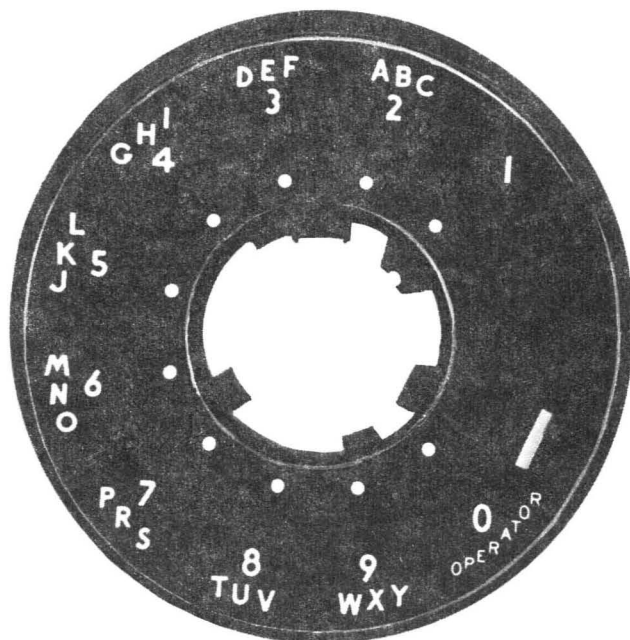
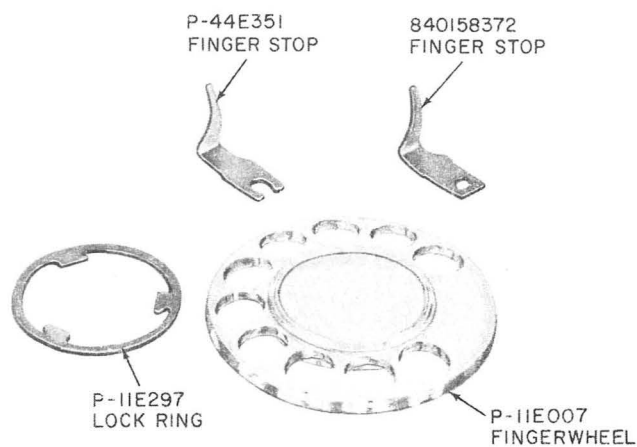
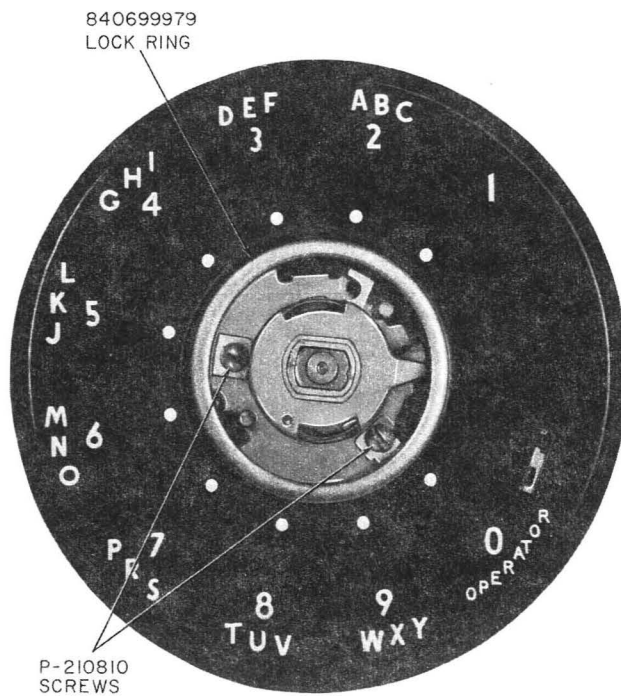
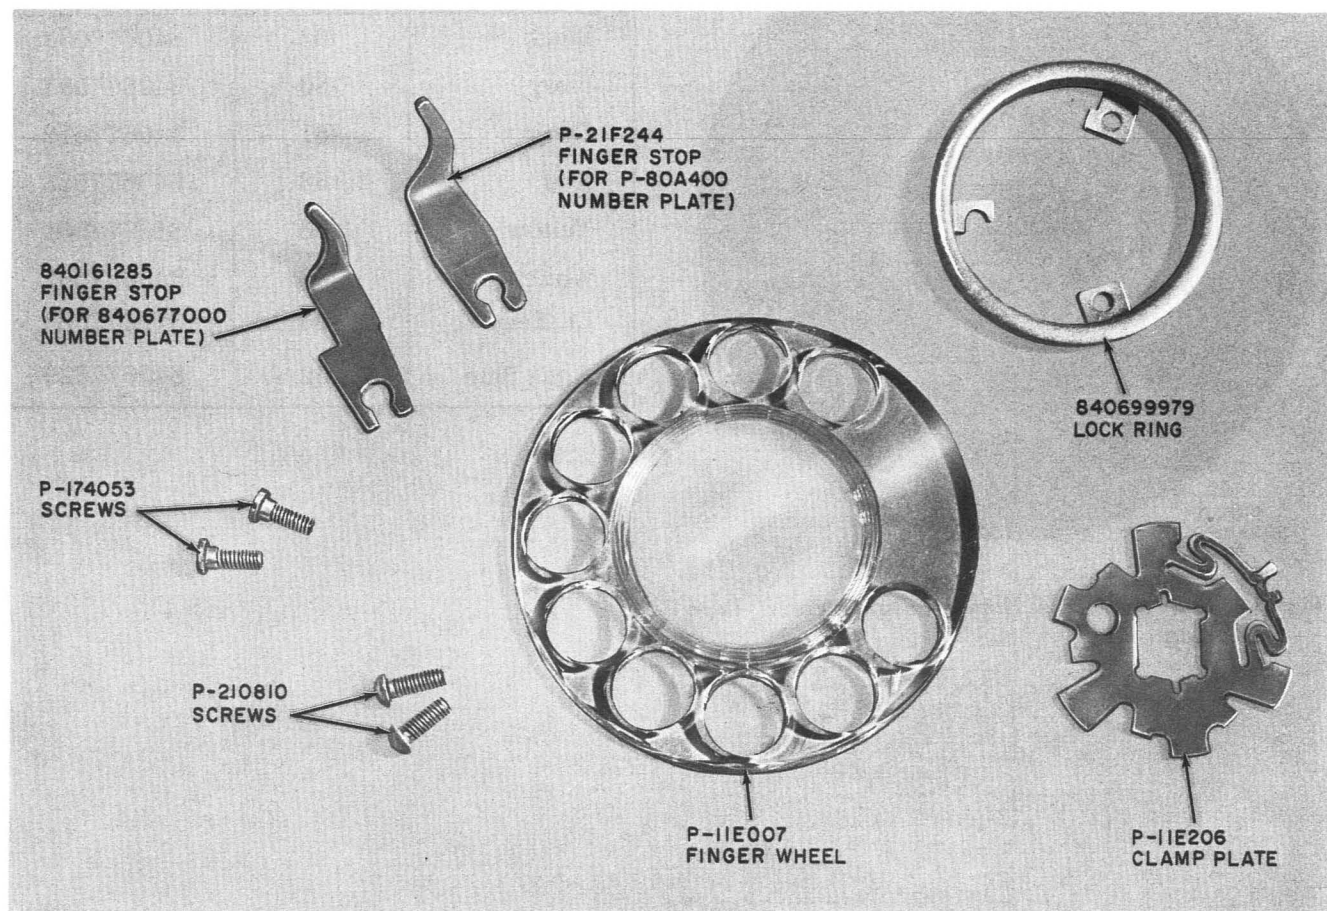

Fig. 1—Universal Dial Number Plate (840677000)
Fig. 4—9 Dial Adapter Parts
Fig. 5—Universal Dial Number Plate With 7-Type Dial
Fig. 6—7 Dial Adapter Parts
- (b) **9-Type Dial:** When a single letter code 9-type dial, such as 9C, is installed, a universal dial number plate (Table B and Fig. 1 and 2) along with a P-11E297 lock ring, P-44E351 fingerstop, and P-11E007 fingerwheel from a 9 dial adapter (Fig. 4) are required. When a multiple letter code 9-type dial, such as 9CA and 9CAM, is installed, a universal dial number plate (Table B and Fig. 1 and 2) along with an 840158372 fingerstop and P-11E007 fingerwheel from a 9 dial adapter (Fig. 4) are required. Provide a station number card
- (c) **7-Type Dial:** When it is necessary to replace a number plate, install a universal number plate (Table B and Fig. 5) with required parts from a 7 dial adapter (Fig. 6). The 7 dial adapter and universal number plate are each ordered separately.
- (d) Install new universal number plate using 840699979 lock ring as shown in Fig. 5.
| 500D1M Includes 9 (Fig. 4) and 7 (Fig. 6) Dial Adapter Package | 500D1- Includes Universal Dial Number Plate and P-17A422 Ring Assembly | D3BN-29 | G3A6- or G3A12- | H4CJ- (6 or 12 foot length) |
| 554B1M Includes 9 (Fig. 4) and 7 (Fig. 6) Dial Adapter Package | 554B1- Includes Universal Dial Number Plate and P-17A422 Ring Assembly | | | |